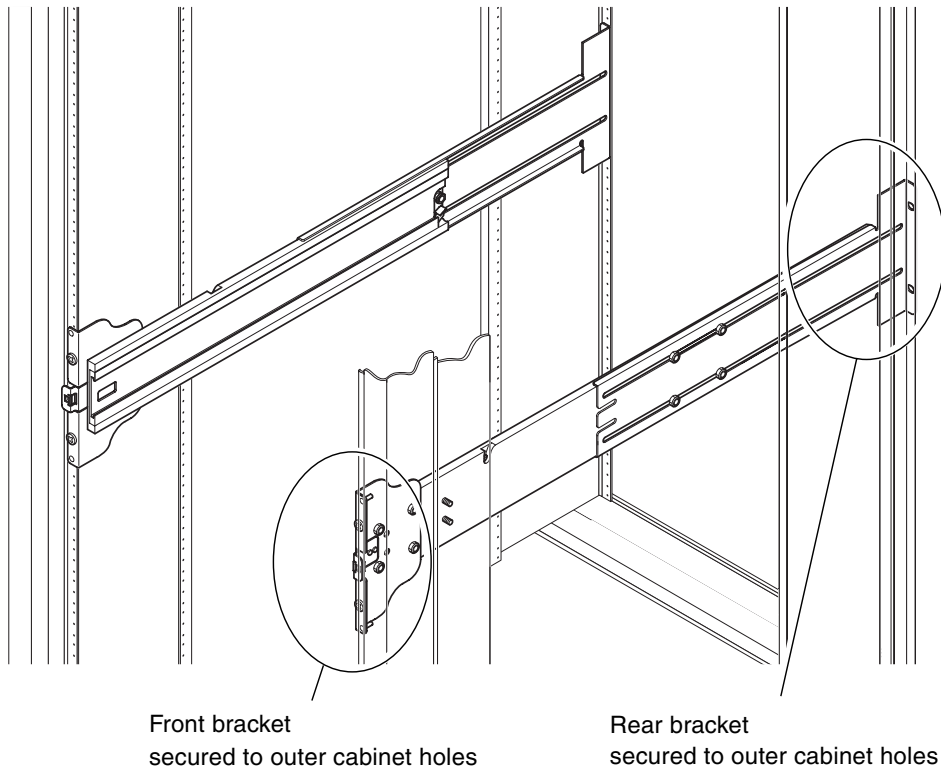

FIGURE 1-5 Installing the Rails in a Sun Rack 900 Cabinet or 19-Inch Four-Post Cabinet
1. Insert the pins in the front bracket into cabinet holes 22 and 33 (FIGURE 1-5).
1. Insert the pins in the front bracket into cabinet holes 58 and 69 (FIGURE 1-5).
3. Secure the rear bracket with two no. 10-32 UNF screws (FIGURE 1-5).
4. Secure the front bracket with two no. 10-32 UNF screws (FIGURE 1-5).